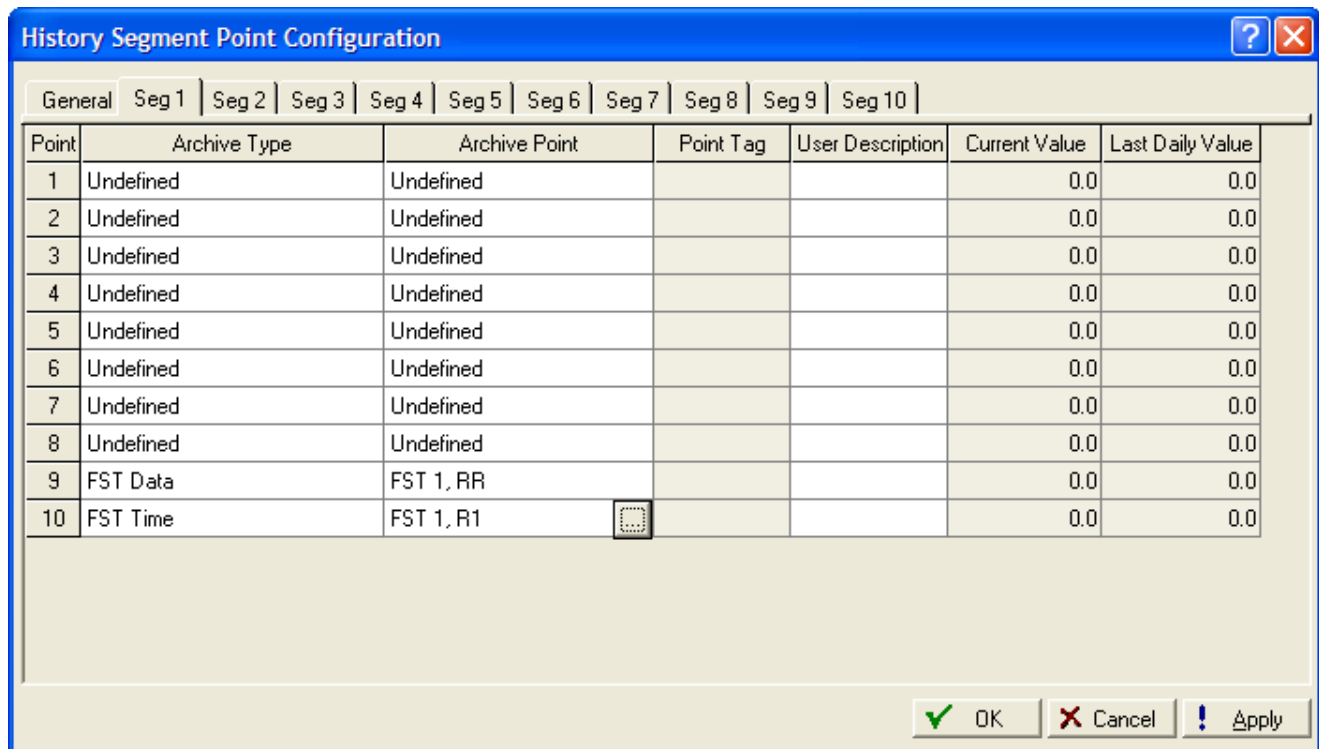

Figure 4-1. History Segment Point Configuration
10. Click **OK** to close the Select TLP screen. The History Segment Point Configuration screen should look like *Figure 4-1*: